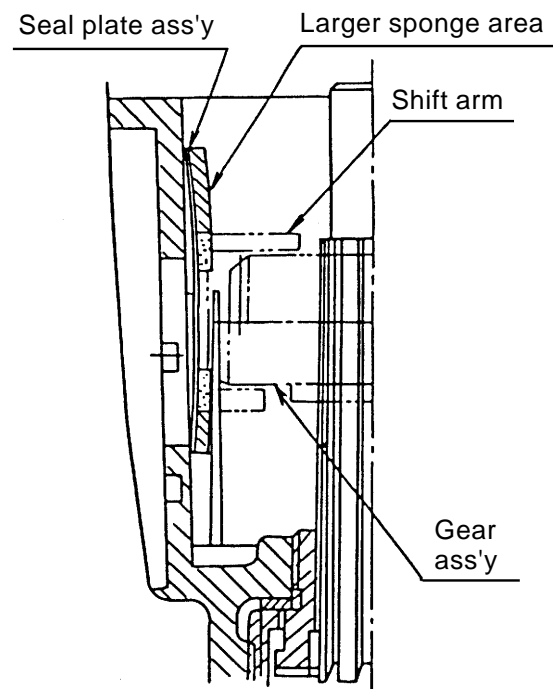

Fig. 7
- (1) Insert the Seal Plate [33] into the sliding portion of the Shift Arm [34] within the Gear Cover [13]. Follow the instructions shown in the Fig. 7 for the seal plate inserting direction and the sponge surface direction.
- (2) Insert the Gear [15] through the Spindle [5] while supporting it between the both arms of the Shift Arm [34]. In other words, the Shift Arm [34] is inserted into the shift arm sliding portion, along with the Seal Plate [33]. (When inserting it, the sponge is pressed flat.) Be careful as to the difference in the arm length of the Shift Arm [34].
- (3) Insert the Shift Plate [32] (forming a one-piece structure with the Shift Lock [30] and D3 x 12 Roll Pin [29]) into the shift plate sliding portion provided outside the Gear Cover [13]. Be careful not to lose mounting Spring (B) [31]. After aligning the through hole for the shift plate screw and the shift arm screw hole, secure the Shift Plate with M4 x 12 Seal Lock Flat-Hd. Screw [28]. In this reassembling process, be careful not to pinch the Seal Plate [33] between the Shift Plate [32] and the Shift Arm [34].